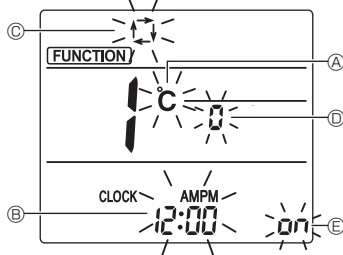

Fig. 6-6
3. Check that function No. "1" is displayed, and then press the **SET** button ③.
- The Screen display setting screen will be displayed. (Fig. 6-6)
- Press the **UP/DOWN** button ④ to change the function No.
6.8.2. Changing the temperature unit (Fig. 6-6 A)
- Press the **TEMP** button ⑤.
- Each time the **TEMP** button ⑤ is pressed, the setting switches between **C** and **F**.
6.8.3. Changing the time display (Fig. 6-6 B)
- Press the **TIME** button ⑥.
- Each time the **TIME** button ⑥ is pressed, the setting switches between **12:00** and **24:00**.
6.8.4. Changing the AUTO mode (Fig. 6-6 C)
- Press the **MODE** button ⑦.
- Each time the **MODE** button ⑦ is pressed, the setting switches between **1** and **2**.
6.8.5. Changing the pair No. (Fig. 6-6 D)
- Press the **UP/DOWN** button ④.
- Each time the **UP/DOWN** button ④ is pressed, the pair No. 0-3 changes.